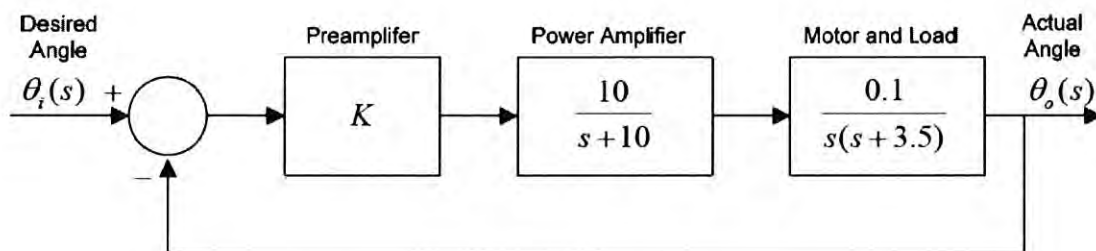

Figure 7
- a) For the unity feedback system of Figure 7: